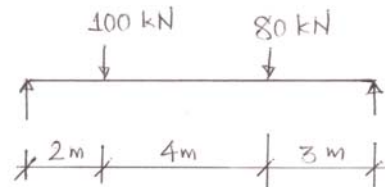

Fig. 2
- (b) Find the deflection and slope under load 100 kN using conjugate beam method. Refer Fig. 2.  $E = 200 \text{ GPa}$  and  $I = 150 \times 10^6 \text{ mm}^4$ . **07**